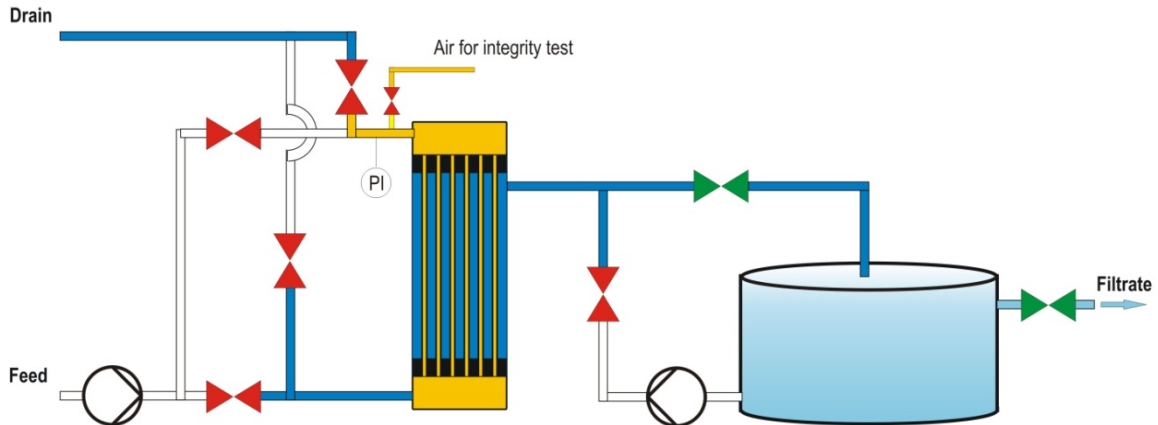

Figure 13-2: Pressure hold phase and pressure measurement for integrity test from feed side
3. Once the high-pressure side has been completely emptied of water and a stable pressure of 1 bar (14.5 psi) has been reached (and maintained for at least 1 minute), close the air supply to the high-pressure side (Figure 13-2 shows an example using the feed side as the high-pressure side).